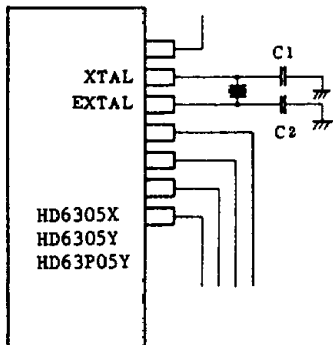
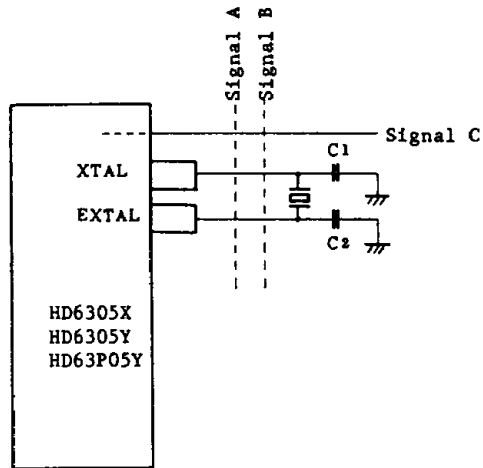

Figure 35 Design of Oscillation Circuit Board
Figure 36 Example of Circuit Causing Trouble in Oscillation
- (1) Locate crystal, ceramic resonator, and load capacity C_1 and C_2 as near the LSI as possible. (Induction of noise from outside to the XTAL and EXTAL pins may cause trouble in oscillation.)
- (2) Wire the signal lines to the neighboring XTAL and EXTAL pins as far apart as possible.
- (3) Board design of situating signal lines or power supply lines near the oscillator circuit as shown as Figure 36, should not be used because of trouble in oscillation by induction. The resistor between the XTAL and EXTAL, and pins close to them should be $10M\Omega$ or more. The circuit in Fig. 35 is an example of good board design.